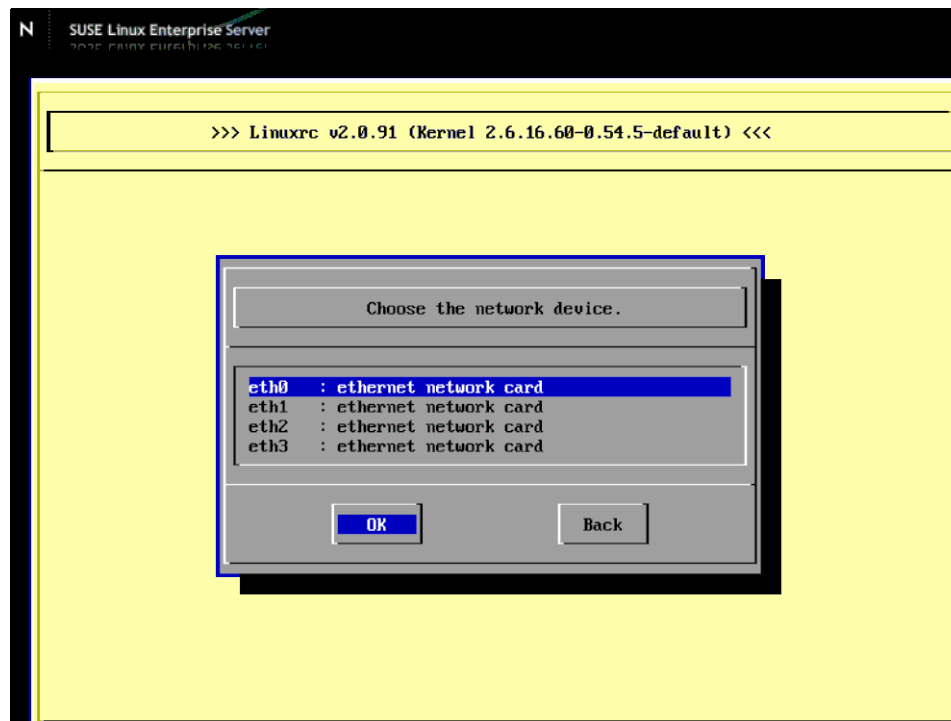

Figure 6-52 Select Ethernet card
2. Select the device connected to the iSCSI SAN, as shown in Figure 6-52.